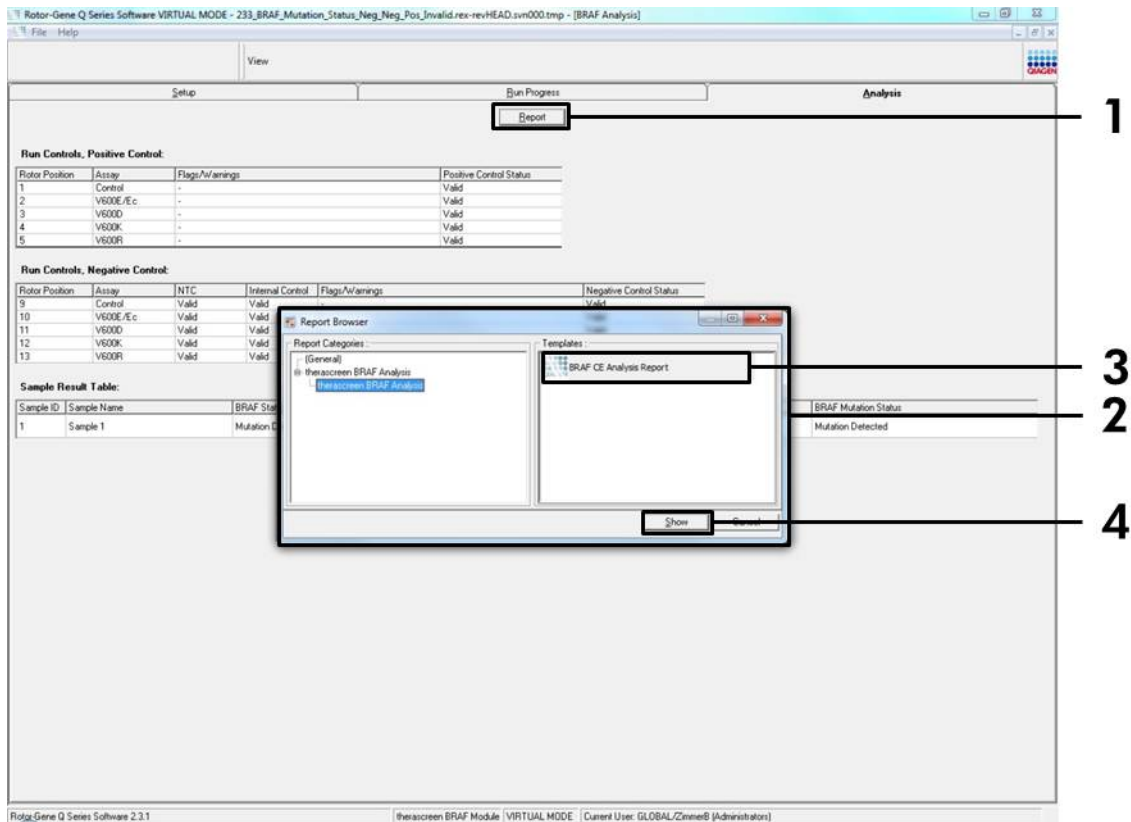

Figure 20. Selecting the “BRAF CE Analysis Report”. (1 = “Report” button, 2 = “Report Browser” panel, 3 = “BRAF CE Analysis Report” button, 4 = “Show” button).
18. Report files can be produced by clicking the “Report” button. The “Report Browser” window will appear. Select “BRAF CE Analysis Report” under “Templates”, and then click the “Show” button (Figure 20).